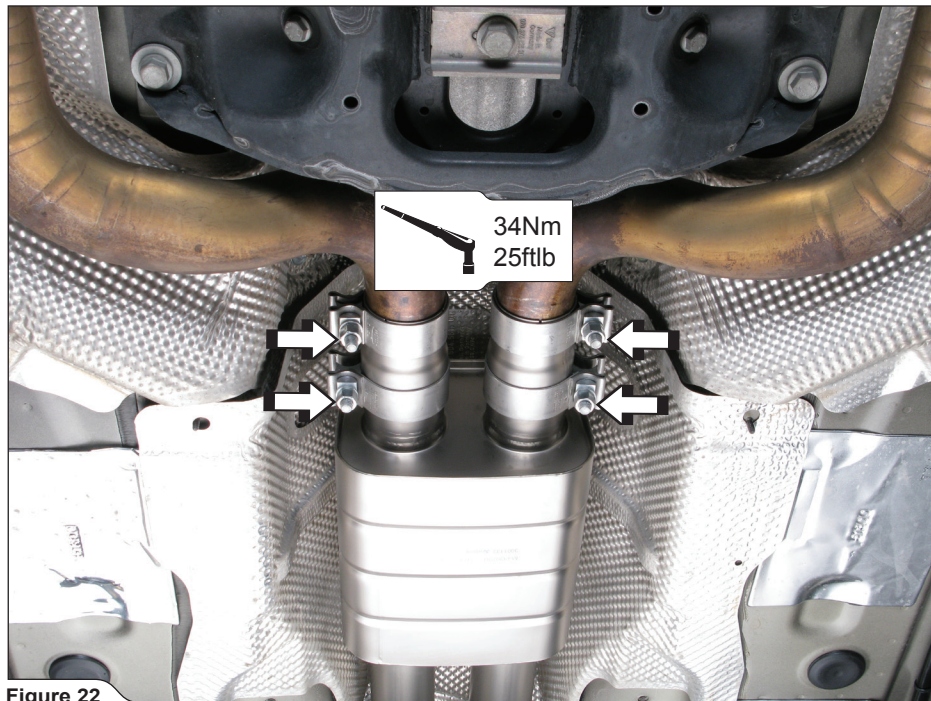

Figure 22
9. **For V6 and V8-non turbo vehicle models only:** join the Akrapovič link pipes and original front pipes, align the adapters with clamps on the middle of the joint and tighten the clamps to a specified torque (**Figure 22**).